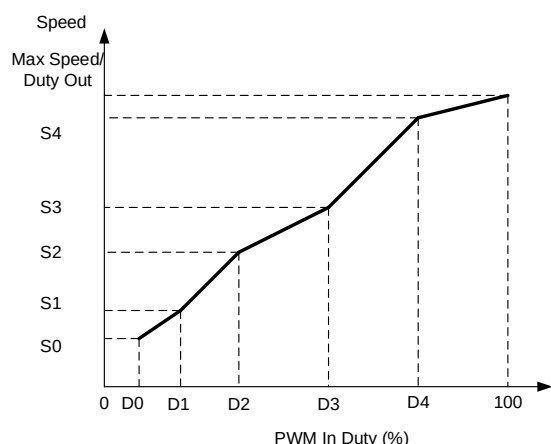

Figure 7: Curve Configurations
- If SPD_HZERO = 0, the speed/output duty cycle follows the configured curve (see Figure 7 on page 15).
The MPQ6634-AEC1 provides a curve configuration function. Both the input duty cycle and output duty cycle/speed can be configured via this register (see Figure 7 on page 15).
The S1[7:0], S2[7:0], S3[7:0], and S4[7:0] bits set the speed/output duty cycle when the input duty cycle is set via the D1[7:0], D2[7:0], D3[7:0], and D4[7:0] bits, respectively (see Figure 7).